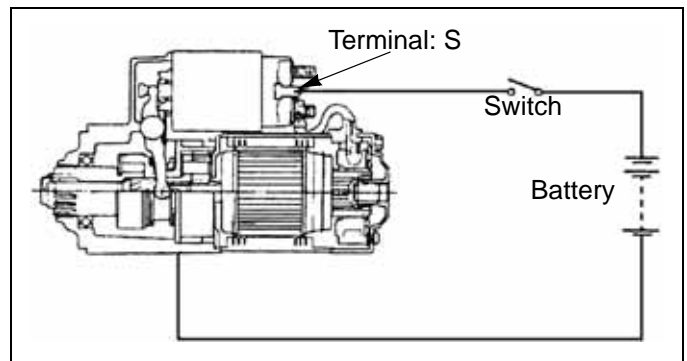

Fig. 5-34
- a. Connect the starter to a battery, as shown in page 5-16, Fig. 5-34. Close switch. This will shift pinion into cranking position.